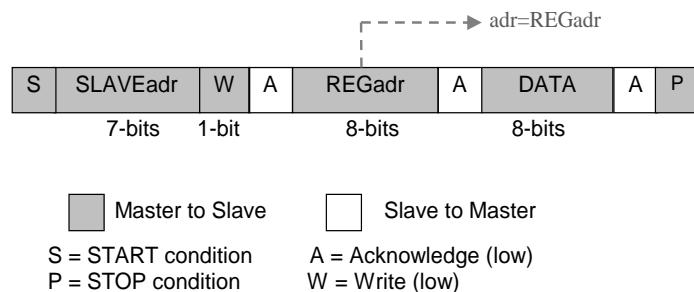

Figure 47: I²C Byte Write (SDA Line)
The I²C bus is monitored for a valid slave address whenever the interface is enabled. It responds immediately when it receives its own slave address. The acknowledge is done by pulling the SDA line low during the following clock cycle (white blocks marked with A in Figure 47 and Figure 49).
The protocol for a register write from master to slave consists of a START condition, a slave address with read/write bit, and the eight-bit register address followed by eight bits of data, terminated by a STOP condition. DA9092 responds to all bytes with acknowledge (A), see Figure 47.